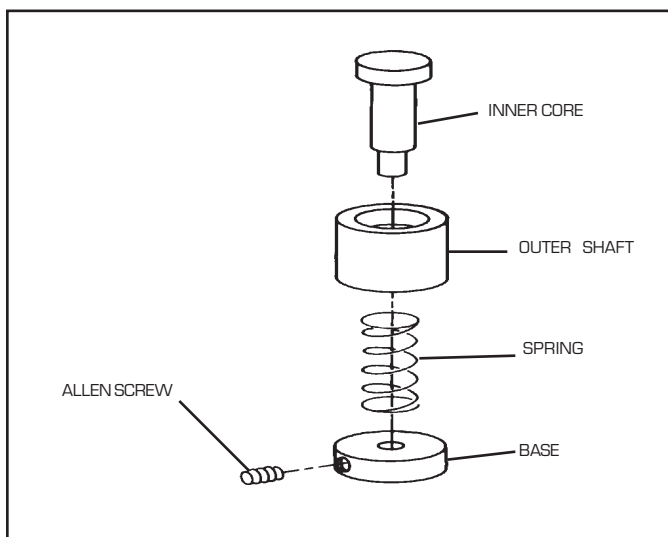

Figure 5.6
6. Loosen the allen screw on the lower die (see Figure 5.6), then lift the inner core out of the die.